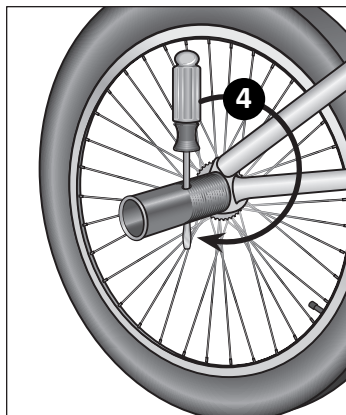

Figure 3.33
- ❹ Insert a screwdriver or similar tool through the peg holes and tighten by turning the peg with the tool. **Figure 3.33**